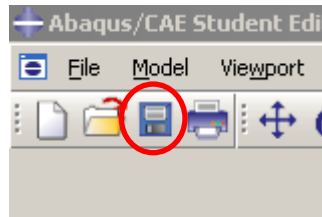

Figure 36. Disk Icon (Saving)
- Save the file by doing either **File > Save** or clicking the disk icon (Figure 36).